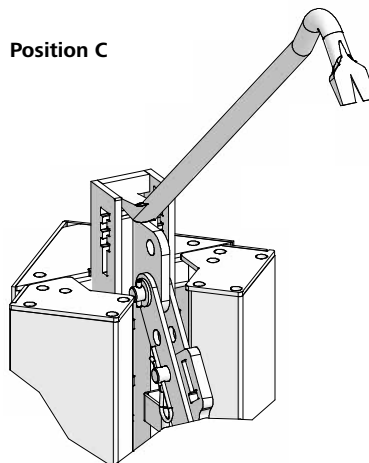

Fig. 54.5
7. The stripping corner can be reset for the next pour by positioning the crowbar at position C (Fig. 54.5) and pushing the bell-crank lever down.